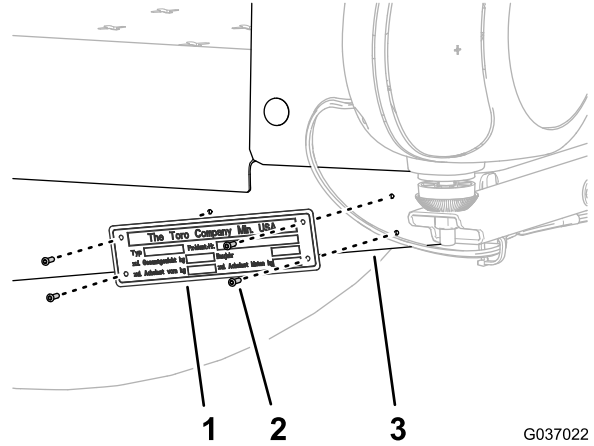

Figure 18
5. Rivet the data plate to the platform channel (Figure 18).